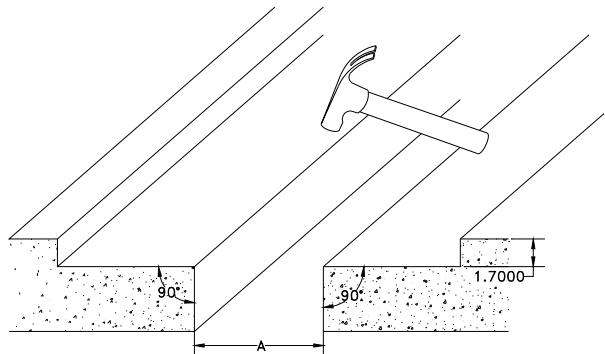

Figure 3
E. Concrete within the blockout area and adjacent to the joint must be sound. This should be confirmed by tapping these areas with a hammer (Figure 3). If a hollow sound is heard or the concrete cracks, crumbles or loosens, the unsound concrete must be removed and repaired with a structural repair mortar. Repair mortars acceptable to Balco, Inc. include; Thoroc 1060, Emaco T-415 and Sika 123. Contact Balco, Inc. for recommendations on other compatible repair mortars.